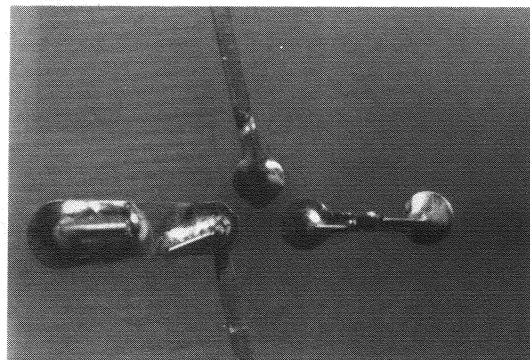

*Fig. 7.11 Component Lead Bending*
3. Leads should be bent in the direction of the run connected to the pad and clipped at a length approximately  $\frac{1}{8}$ " (Fig. 7.11).